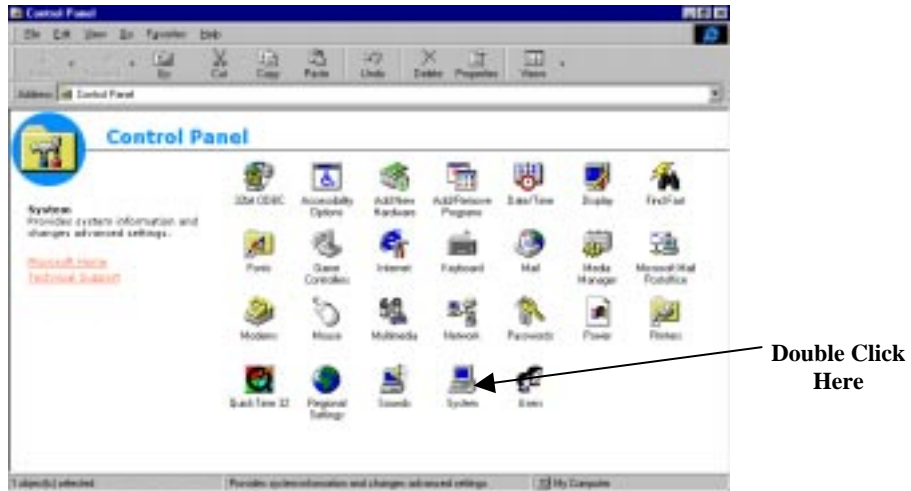
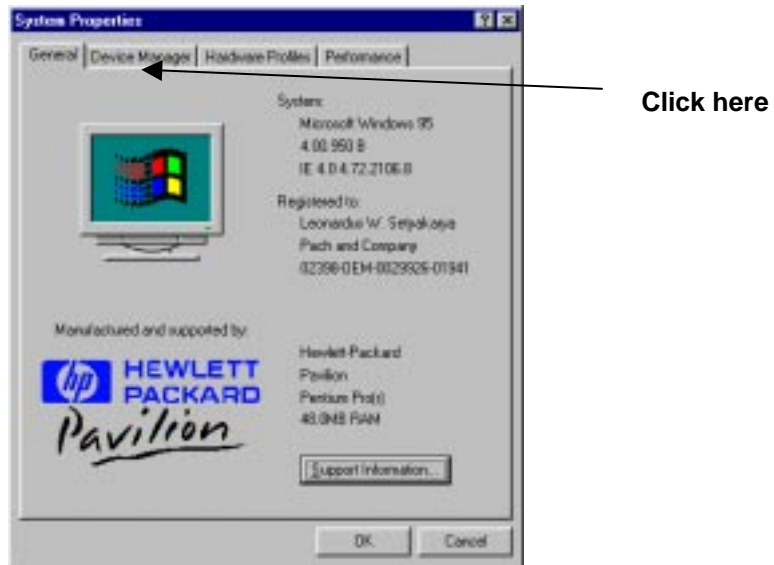

Figure 4.6 Control Panel
Figure 4.7 System Properties
- Click on “**Control Panel**”, you will see as shown in figure 4.6.
- Double click on the “**System**” icon, see figure 4.6, and you will see figure 4.7
- Click on “**Device Manager**”, see figure 4.7.